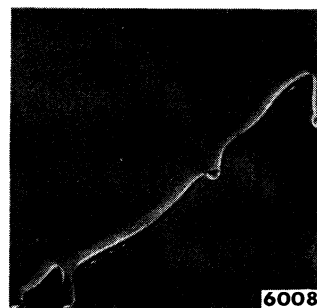

Fig. 25—Runs and Sags
(6) **RUNS, SAGS, AND WRINKLES.** This is evidenced by uneven collections of paint on the finished surface (fig. 25). The collections may appear in the form of tear drops or sagging lines. Usually these lines are quite soft and sometimes they may be wrinkled (fig. 26). Where this occurs, smooth out uneven surfaces and refinish. *Use repair procedure (2).*